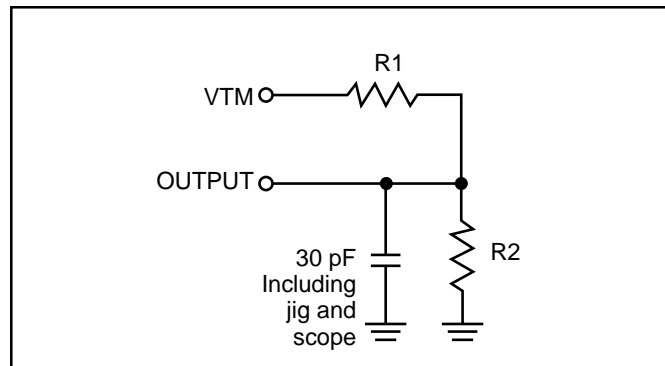

Figure 1
1. Test conditions assume signal transition times of 5 ns or less, timing reference levels of 0.9V/1.5V, input pulse levels of 0.4 to  $V_{DD}-0.2V/V_{DD}-0.3V$  and output loading specified in Figure 1.
1. Test conditions assume signal transition times of 5 ns or less, timing reference levels of 0.9V/1.5V, input pulse levels of 0.4V to VDD-0.2V/VDD-0.3V and output loading specified in Figure 1.